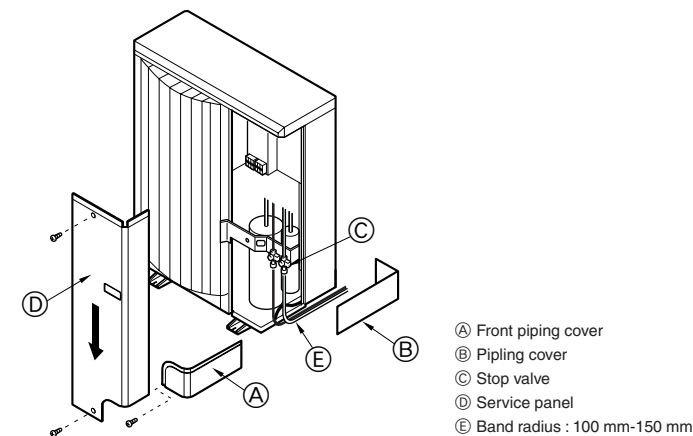
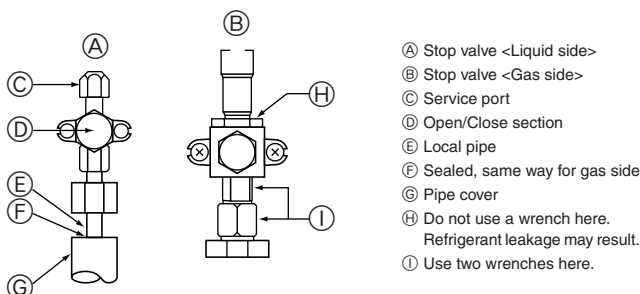

Fig. 4-2
Fig. 4-3
4.3. Refrigerant piping (Fig. 4-2), (Fig. 4-3)